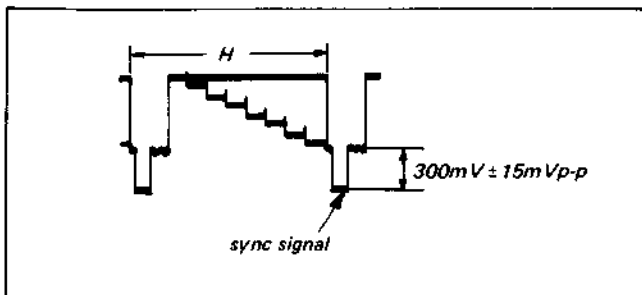

Fig. 4-4-2. Level adjustment of sync signal
- (1) Supply the VTR with the colour bar signal and set up the E-E mode.
- (2) Connect the oscilloscope to pin 22 of IC1.
- (3) Adjust RV14 for the sync signal level of  $300\text{mV} \pm 15\text{mVp-p}$ . (See Fig. 4-4-2.)